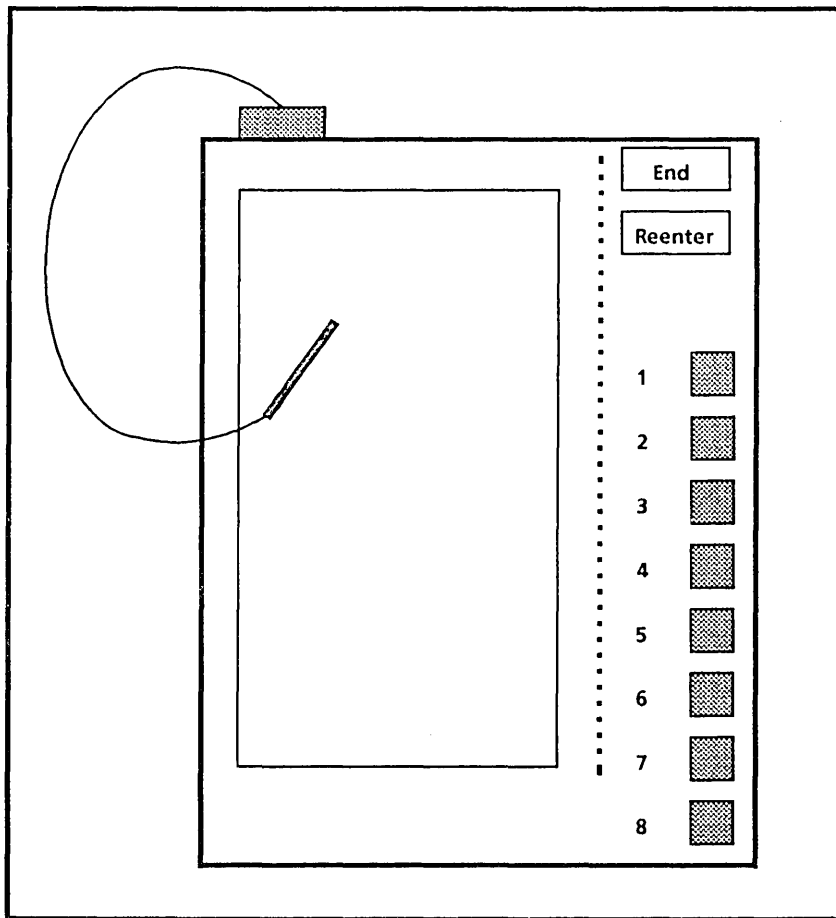

Figure 1.1 - Tablet Surface
In addition to the basic page markup functions described above, the Tablet can be used in conjunction with predefined *tablet boxes* on the right side of the Tablet surface (refer to Figure 1.1) to simplify the use of the entire system. Tablet boxes permit the operator to process complicated pages that include a number of type fonts and graphics. Additionally, operator-supplied text can be entered automatically from the tablet boxes.
In addition to the Tablet/scanner interface described here, Kurzweil provides users with a series of user-definable *tablet boxes* on the right side of the Tablet surface (see Figure 1.1). These boxes allow operators to enter special information into the format control file. These commands can include directions to "Load a Training Set", or to "Repeat" a series of instructions. Tablet boxes are described completely in Chapter 2.
6. Continue to mark the page in this manner, with pairs of coordinate points. When all areas have been marked, press the stylus down on the *End of Page* menu box on the right side of the Tablet surface (refer to Figure 1.1). The Tablet page number will increase by one after the stylus is pressed on the *End of Page* box.
On the right side of the Tablet surface are ten boxes. Two of these have been described earlier (*End of Page* and *Re-Enter Page*). The other boxes are below these two and are numbered, 1 to 8. Refer to Figure 1.1 for an illustration of the Tablet surface.